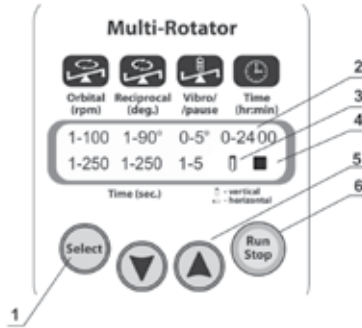

Fig. 1. Control panel
- › Press the Run Stop key (Fig.1/6) to start the program.
- › The platform motion will begin and the corresponding indication (▶, Fig.1/4 and the changing time values) will be shown on the display.
- › If the operation time is not set and the timer indicator (Fig.1/2) shows 0:00, pressing the Run Stop key will cause continuous operation of the rotator until the Run Stop key is pressed again.
- › If the operation time is set the platform movement will stop after the set time has expired (flashing indication ■ Fig. 1/4 will be shown on the display) and will start giving a sound signal at the end of operation (press the Run Stop key to stop the signal).
- › Press the Select key (Fig. 1/1) to choose the parameter to change (the active parameter will flash).
- › Use the ▼ and ▲ keys (Fig. 1/5) to set the necessary value.
When the tube icon (Fig. 1/3) is in vertical position, reciprocal rotation starts with tubes in vertical position (platform in horizontal position).